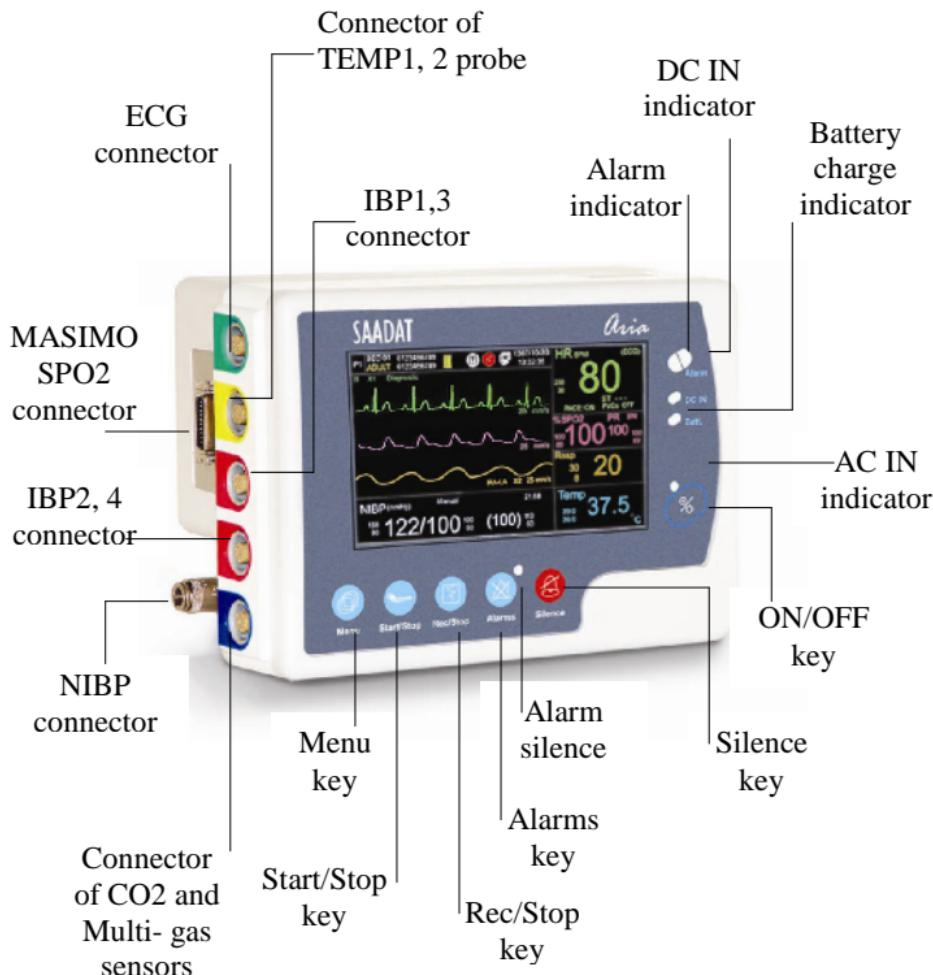

Figure 1-1
Aria Patient Monitor (Figure 1-1) is adaptable to adult and neonatal usage. It can monitor vital signals as ECG, Respiratory Rate (AWRR, RR), NIBP, SPO2, CO2, N2O, O2, Anesthesia Agent (AA), Dual-channel TEMP and four- channel IBP. It contains modules measuring various parameters and features in compactness, lightweight and portability. Battery facilitates transportation of patient.